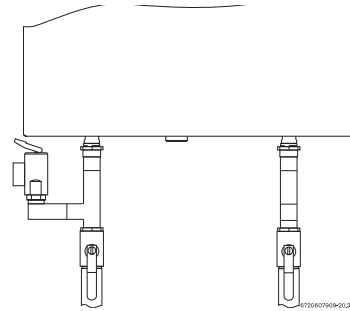

Fig. 30 Plumbing Connections and Pressure Relief Valve
- ▶ Full port shut off valves should be installed on both the cold water supply and hot water outlet lines to facilitate servicing the heater (see Fig. 30).
The listed pressure relief valve supplied with the heater must be installed at the time of installation. No valve is to be placed between the PRV and the heater. No reducing coupling or other restriction may be installed in the discharge line. The discharge line must be a minimum of 4" above a drain and installed such that it allows complete drainage of both the PRV and the line. The location of the PRV must be readily accessible for servicing or replacement, and be mounted as close to the water heater as possible. See Fig. 30. To install the PRV, a suitable fitting connected to an extension on a "T" fitting can be sweated to the hot water line.